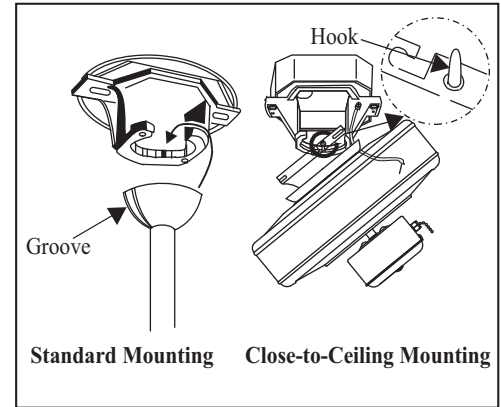

Figure 12
4. Carefully lift the fan assembly up to the ceiling mounting bracket and hang the fan on the tab provided by utilizing one of the holes at the outer rim of the ceiling canopy. (Figure 12) If use standard mounting, seat the hanger ball in the mounting bracket socket. Make sure the tab on the mounting bracket socket is properly seated in the groove in the hanger ball. (Figure 12)
THE TAB AS SHOWN IN FIGURE 12 IS ONLY TO BALANCE THE FAN WHILE ATTACHING WIRING. FAILURE TO HANG AS SHOWN IN FIGURE 12 MAY RESULT IN TAB BREAKING CAUSING THE FAN TO FALL. TAB MUST PASS FROM INSIDE TO OUTSIDE OF CANOPY.